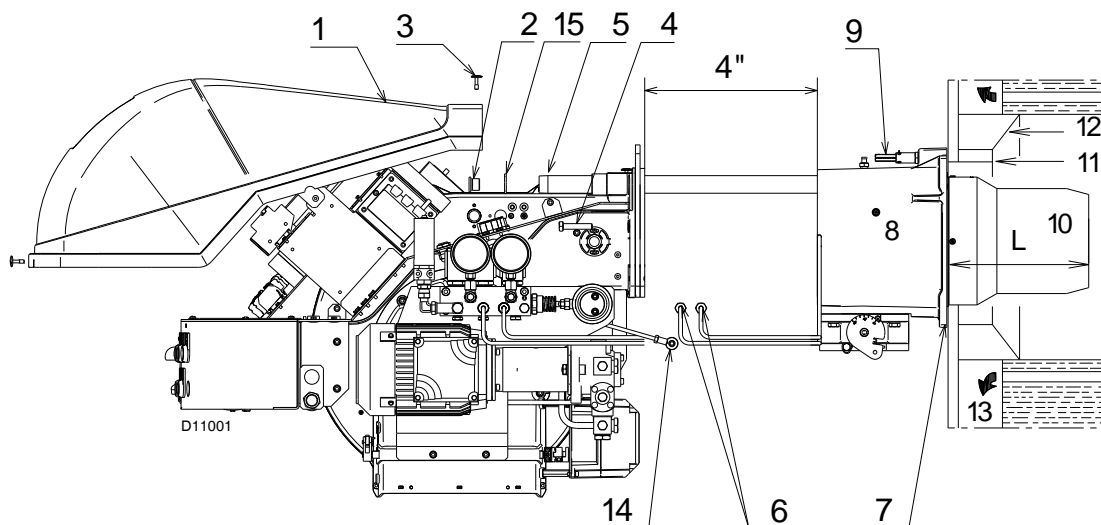
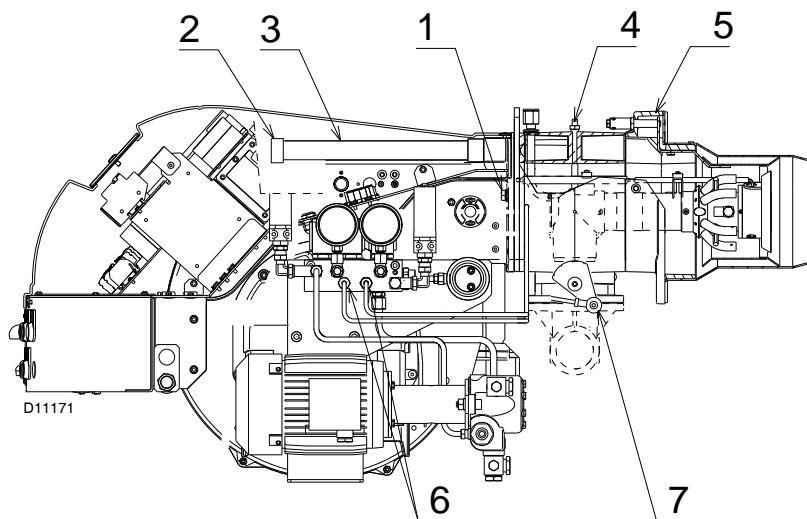

Fig. 11
Fig. 20
This protective insulation must not compromise the extraction of the blast tube. For boilers having a water-cooled front, the insulation 11)-12) (Fig. 11) is not required unless it is required by the boiler manufacturer.
Detach the combustion head from the burner, (Fig. 11):
- Refit the burner to the slide bars 3)(Fig. 20) at approximately 4" from the sleeve 4) - burner positioned as shown in (Fig. 11, page 18) - insert the ignition electrode cables.
- Slide the burner up to the sleeve so that it is positioned as shown in Fig. 20;
- refit screws 2)(Fig. 20) on slide bars 3) including the safety plate 15)(Fig. 11, page 18);
- connect the oil pipes again by screwing on the two connectors 6)(Fig. 11, page 18).